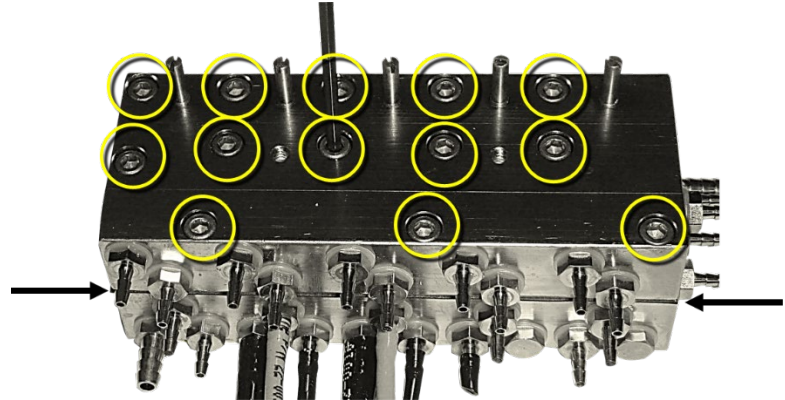

Fig. 3. Five-position Control Block
1. Using a 7/64" Allen wrench, remove all thirteen (13) screws from a 5-position Control Block, then set aside. **(Fig. 3)**
2. Carefully separate the Control Block in the center, open slowly so as not to lose any pucks. **(Fig. 3)**